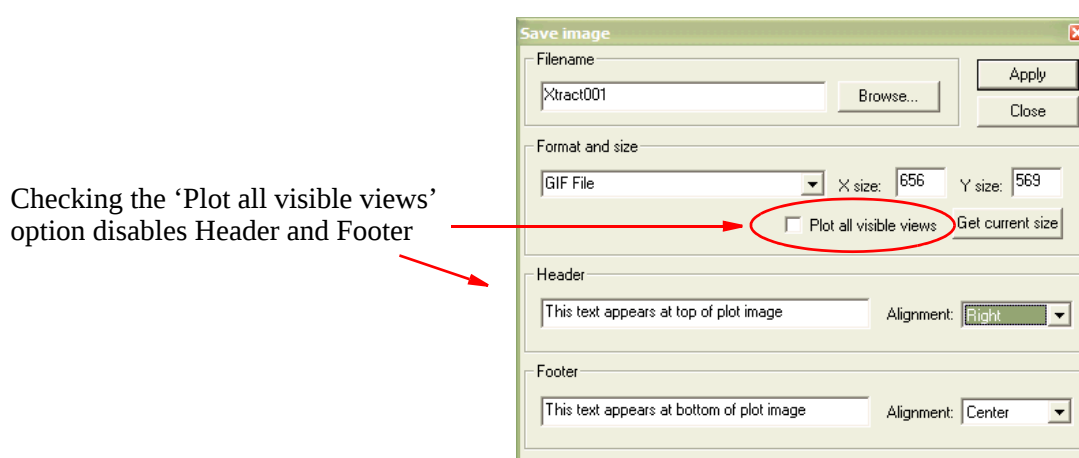

Figure 3.43 Plotting – Save image
- File > Plot (or click the save tool button  or Ctrl+S) – for saving to file with a chosen graphics format, only the active viewport is saved unless the ‘Plot all visible views’ option is checked, see Figure 3.43
File > Plot opens the Save image dialog, see Figure 3.43. A choice of graphics formats are available: